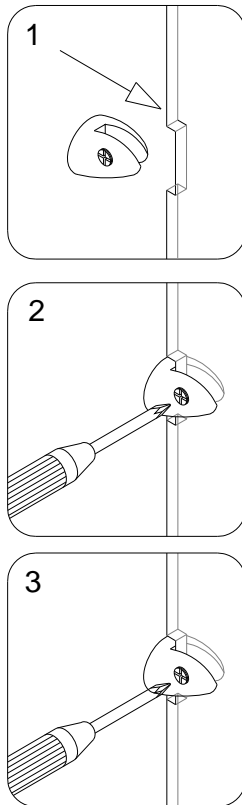

Fig 11
10. Install the **Glass brackets (without nut) (30)** onto the **Stationary glass (26)**. See Fig 11 for details.